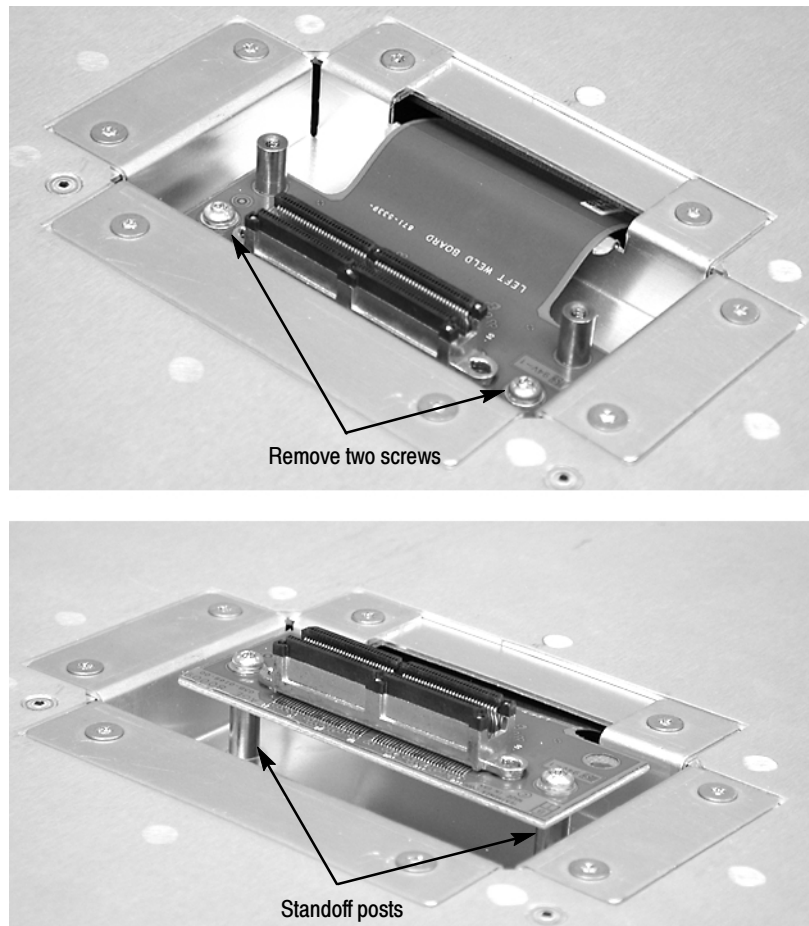

**Figure E-2: Removing the merge connector assembly from the module**
2. Using a Torx T-10 screw driver, remove the two screws holding the merge connector to the module (see Figure E-2).